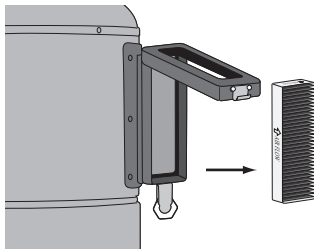

figure 23
2. Remove the used filter, and discard (**figure 23**).